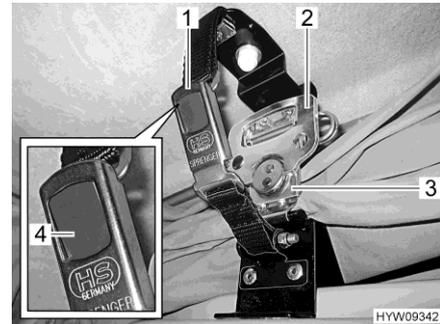

Fig. 26 Locking, elevating roof at the front (C 500)
- Open the snap lock (Fig. 26,1) on both sides. In order to do this, press the grey push button (Fig. 26,4).
- On each side, fold out the handle (Fig. 26,2) of the quick-action turnbuckle (Fig. 26,3) and turn half a turn in an anticlockwise direction. Thus, the lock is released.